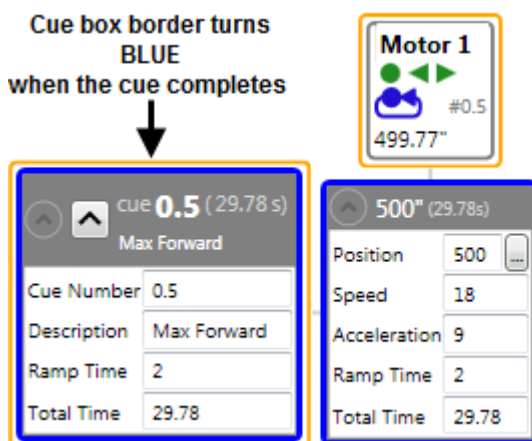

Figure 50
- When the cue completes, the border around the cue in the **Cue Grid** turns blue (Figure 50).